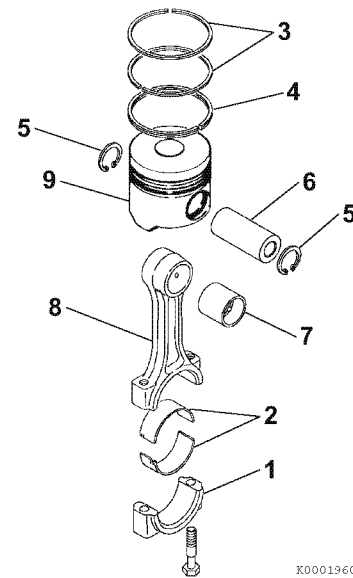

Figure 6-85
4. Lubricate and reinstall the wrist pin (**Figure 6-85, (3)**) through the piston and connecting rod.
5. Reinstall the second circlip (**Figure 6-85, (4)**) and ensure it is securely seated in the groove.